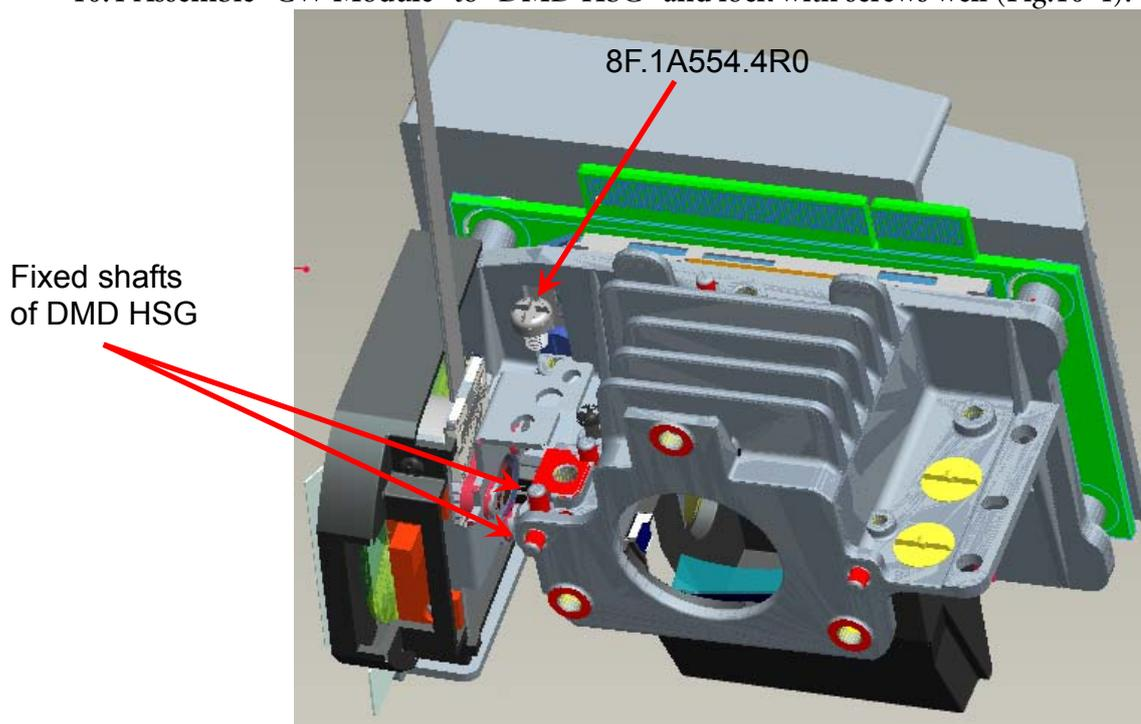

Fig.10-4
10.4 Assemble “CW Module” to “DMD HSG” and lock with screws well (Fig.10-4).